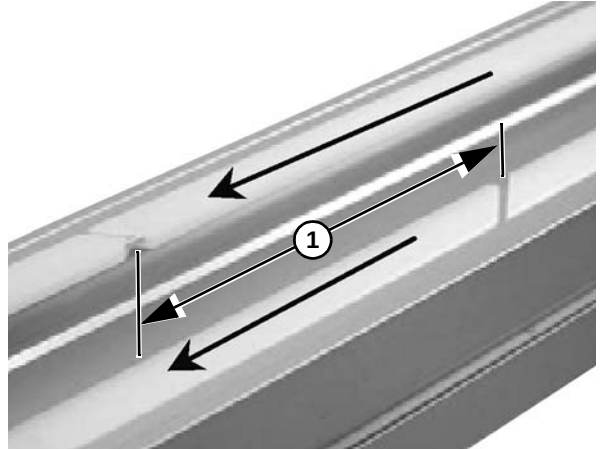

Figure 61
3. Do not place two wear strip joints opposite each other. Make sure there is a distance of at least 4" (**Figure 61, item 1**) between them to make the chain run smoother. This does not apply to a wear strip that begins by an idler unit or after a drive tail, where joints are always parallel.